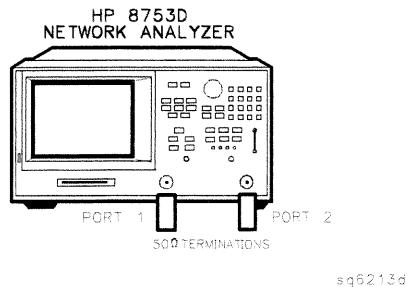

Figure 2-22. Source Input Noise Floor Test Setup
1. Connect the equipment as shown in Figure 2-22.